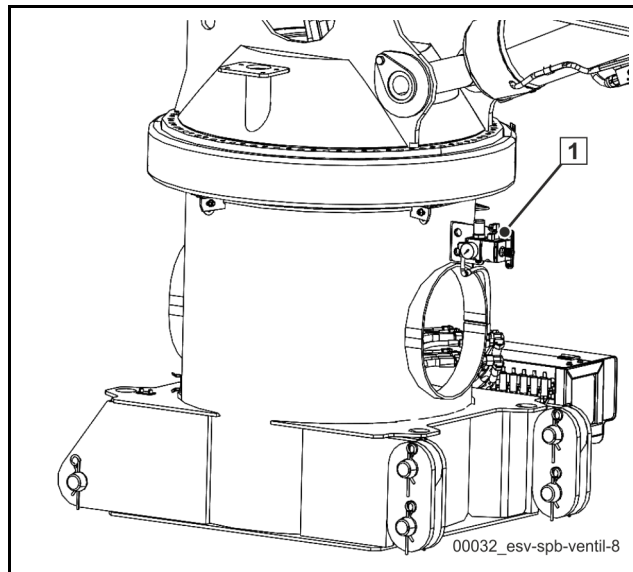

Fig. 444 Compressed air connection
Make sure that you have the required quick-acting coupling for the compressed air connection (1) (**Fig. 444**).